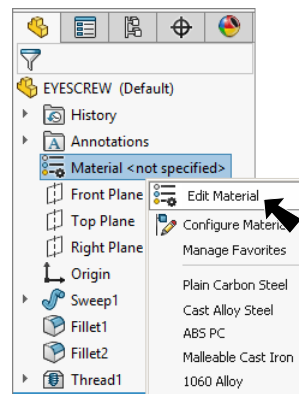

Fig. 15
Step 1. **Right click** **Material**  in the Feature Manager and click **Edit Material**, **Fig. 15**.